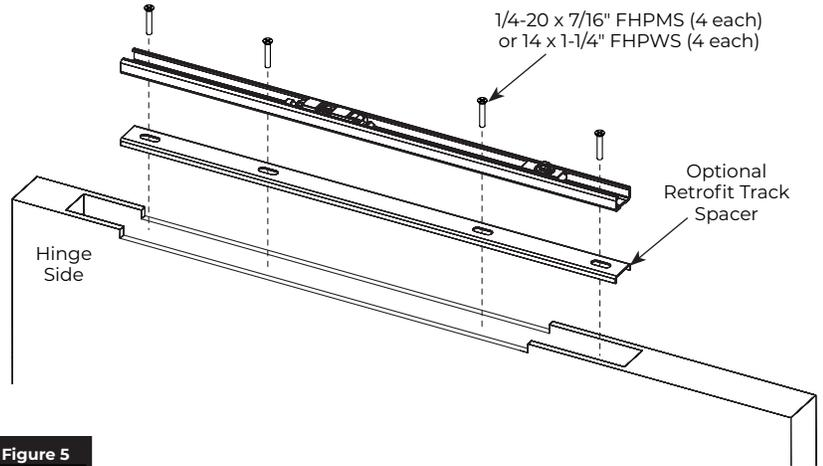

Figure 5
2. Install track into top of door using either four (4) 1/4-20 x 7/16" machine screws for metal doors or four (4) #14 x 1-1/4" wood screws for wood doors. (Figure 5).